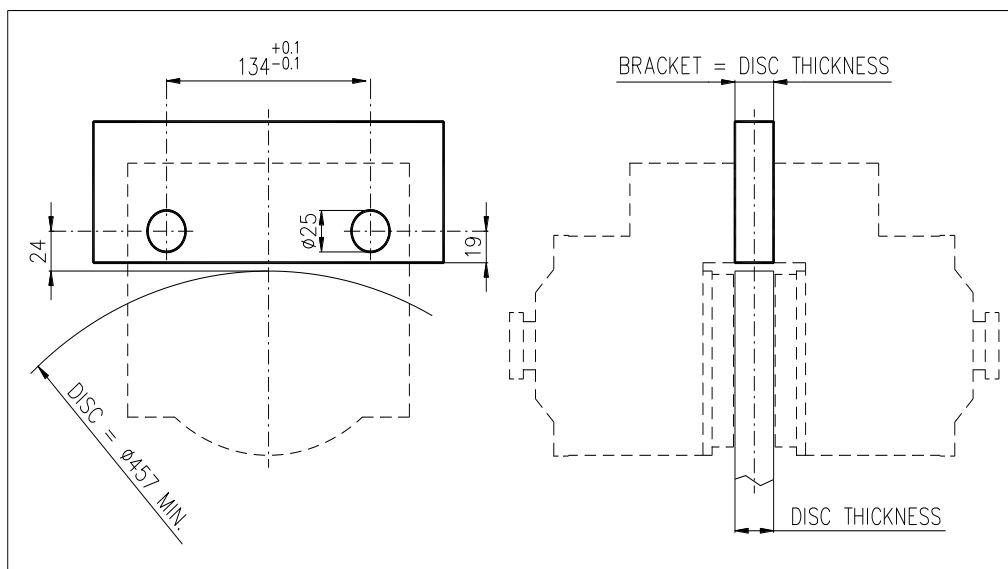

Figure 1
1. The ID 900N brake must be installed on a bracket having the same thickness as the disc (Figure 1). The brake must be anchored using two M24 class 12.9 screws and tightening torque of 1150 Nm. The fixed part which is to support the brake must withstand a tangential force which depends on the brake type: 33000 N for the ID 900N-30 brake (A3962/A3964) or 16500 N for the ID 900N-15 brake (A3965/A3967).